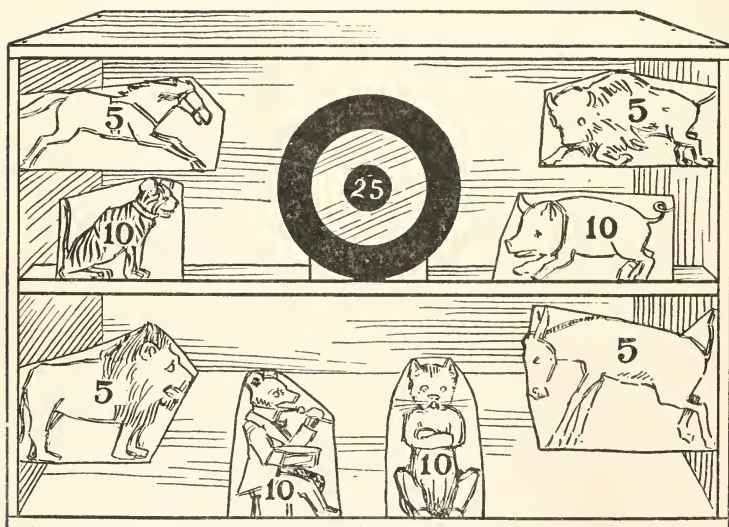
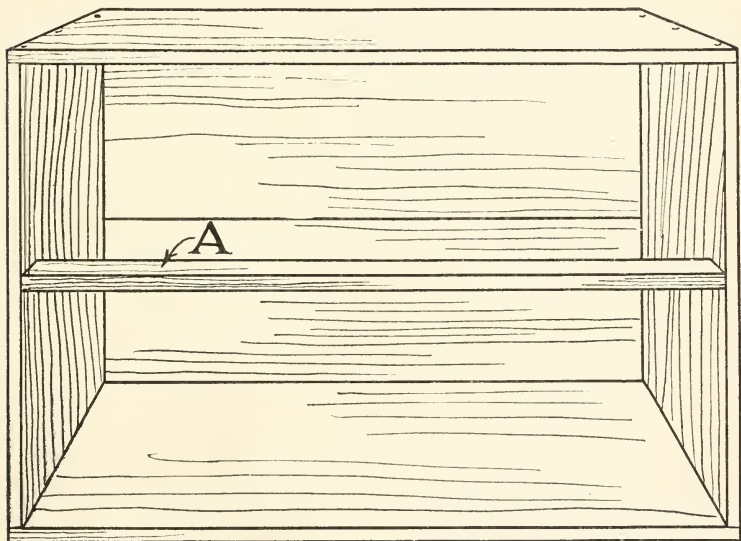

FIG. 212. — The Completed Toy Shooting Gallery.
FIG. 213. — The Box Framework.
Figure 212 shows the completed toy, and Fig. 213 the box that forms
The right position for the box is upon its side so its open top forms the front of the target box (Fig. 213). The horizontal piece *A* (Fig. 213) is fastened between the ends of the box, to support targets. It is held in place by nails driven through the box ends into its ends. If your box is much larger than the one shown in the illus-
**Number the Targets** as shown in Fig. 212, marking the circular target "25," four of the animal targets "10," and the remaining four "5." Each number represents the score of that particular target.